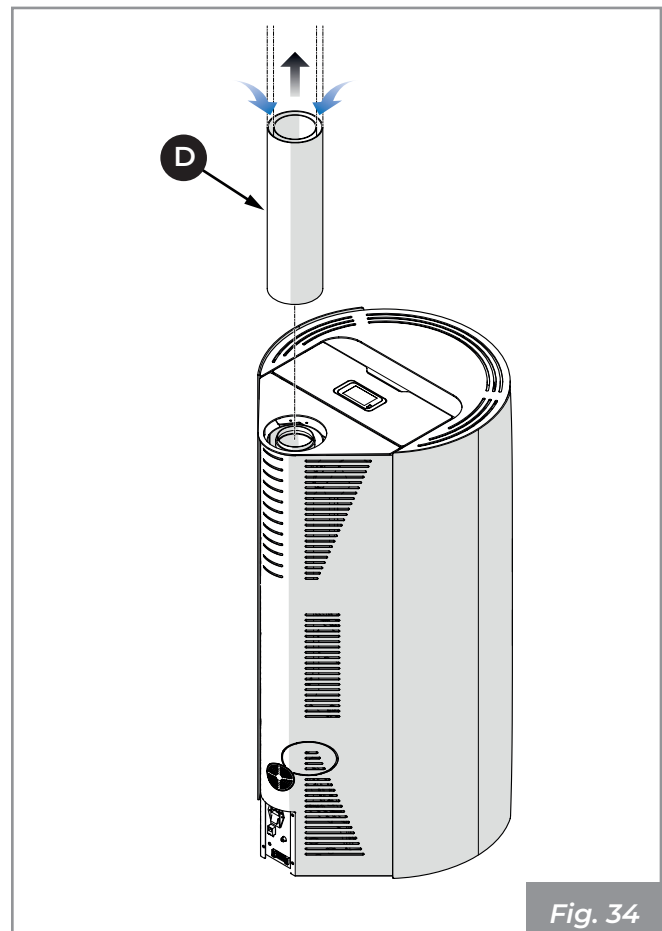

Fig. 34
- Connect the coaxial pipe **(D)** (Fig. 34).